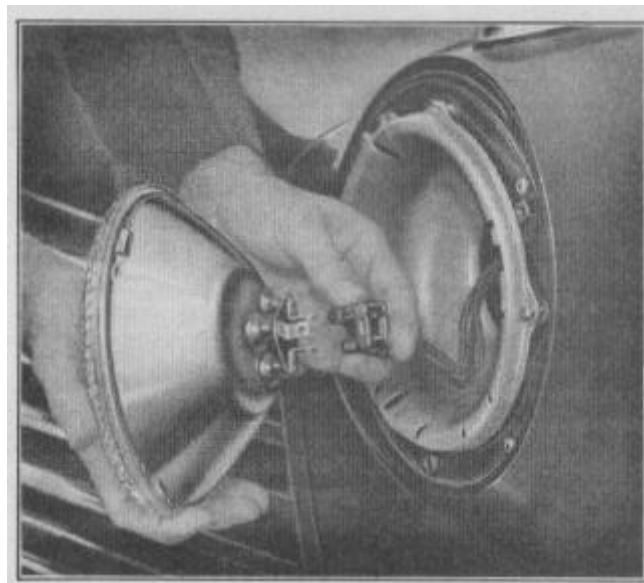

FIGURE 20
4. Remove the reflector plug from the unit as shown in Figure 20.